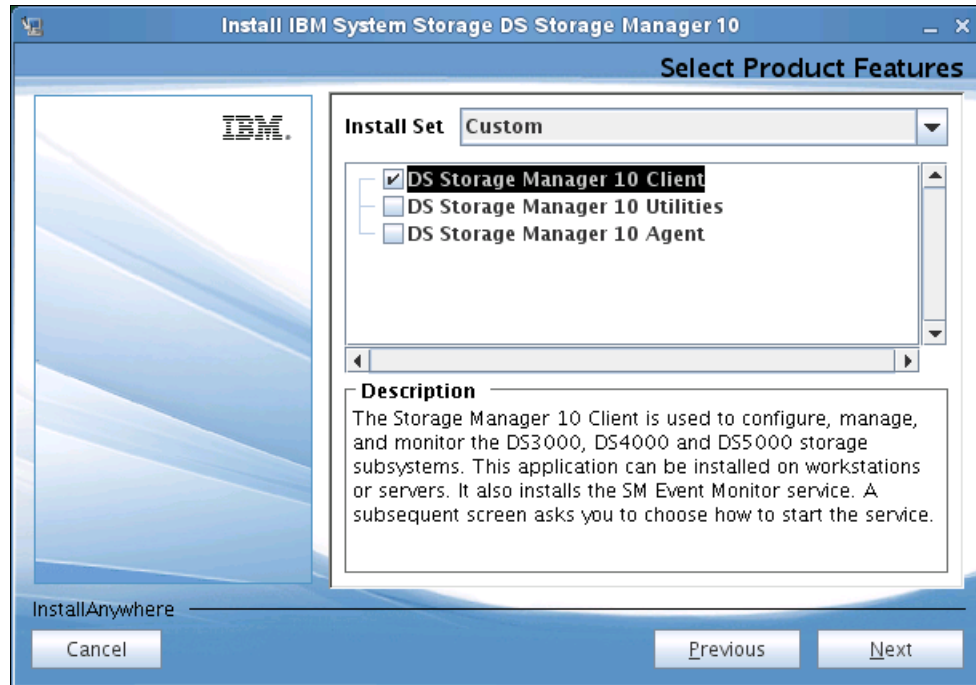

Figure 4-19 Select Product Features
8. Select the Install Set to be installed (DS Storage Manager 10 Client in our case). Click **Next**, as shown in Figure 4-19.